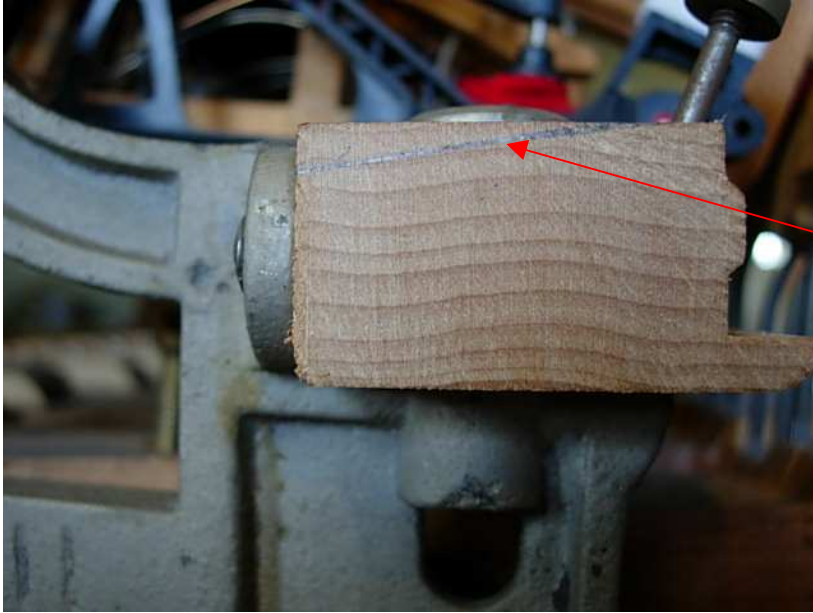

Fig. 6
- b. Mark the end of the rail so that when the repetition is regulated, there is 1/8” (3mm) clearance between the repetition and the action rail. (See Fig. 6)